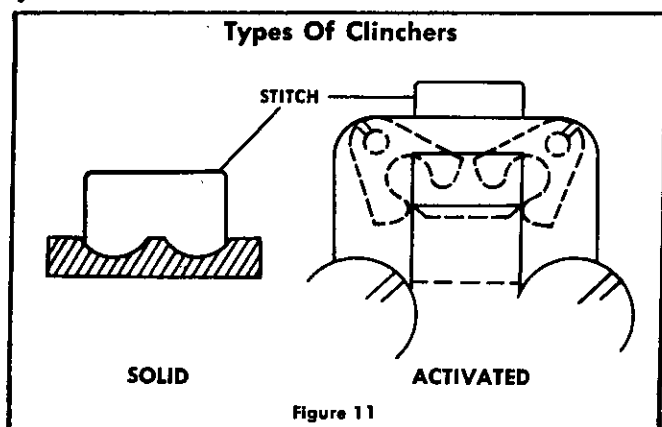

Figure 11
**A. Clincher (Figure 11)**
the clincher so that both legs of the stitch strike the clincher at the same time with equal spacing from the outside edges of the grooves (See Figure 11). Also, the clincher must be aligned with the bender bar grooves of the head from front to rear so that the legs enter the clincher at the widest section of the clincher grooves.